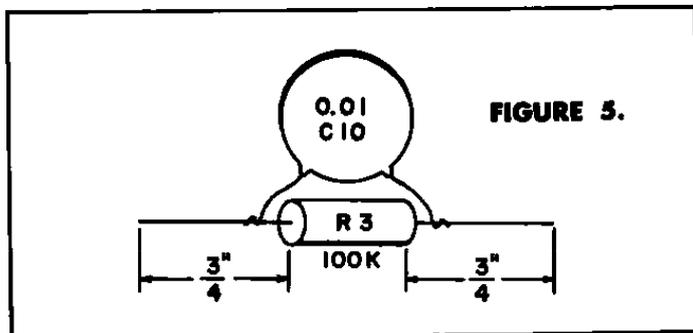
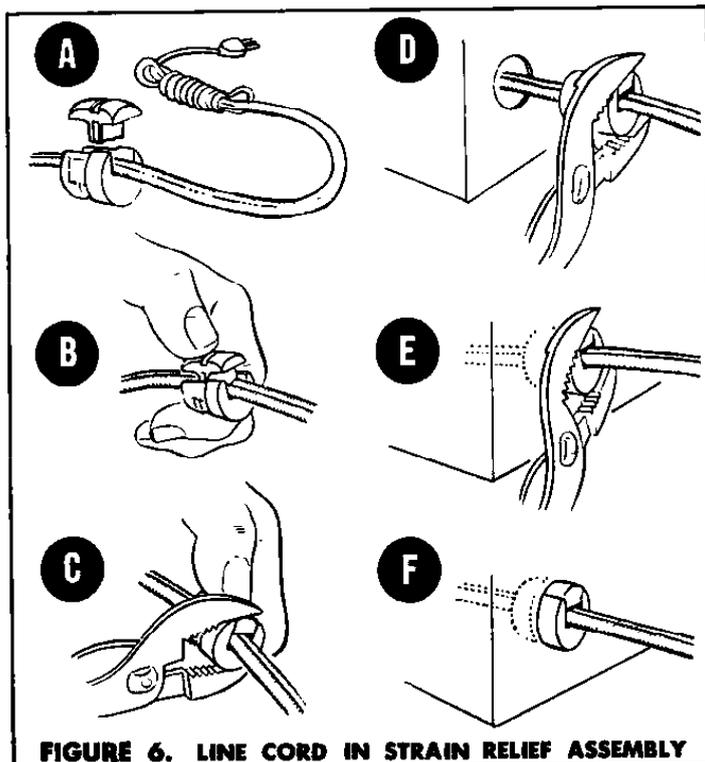

FIGURE 5.
FIGURE 6. LINE CORD IN STRAIN RELIEF ASSEMBLY
73. () Connect a 1" length of blue wire from lug 12 on switch K (S) to lug 2 on the "Band A" coil (S).
74. () Connect a 1 1/2" length of blue wire from lug 3 on the "Band D" coil (S) to lug 9 on switch K (S).
75. () Cut each lead of a 0.01 μ f ceramic disc capacitor C7 (part # 12-8) to 1/2" length, and connect from pin 7 of socket A (S) to lug 2 on terminal post CC (NS).
76. () Connect a 2" length of blue wire from lug 3 on the "Band C" coil (S) to lug 10 on switch K (S).
77. () Cut each lead of the 390 μ f ceramic disc capacitor C8 (part # 12-60) to 1/2" length, and connect from lug 1 on terminal post CC (S) to lug 2 on terminal post CC (NS).
78. () Cut each lead of the R-F choke L-1 (part # 23-9) to 3/4" length, and connect from lug 2 on terminal post CC (S) to lug 3 on terminal post CC (S).
79. () Cut each lead of the 270 μ f ceramic disc capacitor C9 (part # 12-31) to 1" length, and connect from lug 1 on the antenna post E (S) to lug 1 on terminal post FF2 (S).
80. () Cut each lead of a 0.01 μ f ceramic disc capacitor C10 (part # 12-8) to 1/2" length, and wrap around the leads of a 100K 1/2 w resistor, R3 (brown-black-yellow-silver) (part # 13-1), as shown in Figure 5. Solder these connections as shown.
81. () Connect a 3" length of blue wire from lug 11 on switch K (S) to lug 3 on the "Band B" coil (S).
82. () Cut the leads of the resistor-capacitor combination soldered together in step 80 to the lengths shown in Figure 5, and connect from lug 1 on the "Band B" coil (S) to the ground lug FF3 (S).
83. () Cut each lead of the 200 ohm 10 w resistor R4 (part # 13-83) to 1" length, and connect from pin 3 of socket C (S) to pin 3 of socket B (S).
84. () Cut each lead of the 10 μ f 25-Volt electrolytic capacitor C11 (part # 12-41) to 3/4" length, and connect the negative end to lug 2 on terminal post BB (NS). Connect the + or positive end to pin 1 of socket C (NS).
85. () Cut each lead of the 180 ohm 1/2 w resistor R5 (brown-grey-brown-silver) (part # 13-34) to 3/4" length, and connect from lug 2 on terminal post BB (S) to pin 1 of socket C (S).
86. () Cut each lead of the 270 ohm 1 w resistor R6 (red-violet-brown-silver) (part # 13-82) to 1/2" length, and connect from pin 7 of socket B (NS) to lug 1 on terminal post AA (NS).
87. () Cut each lead of the 4700 ohm 1/2 w resistor R7 (yellow-violet-red-silver) (part # 13-18) to 3/8" length, and connect from lug 1 on terminal post AA (S) to lug 2 on terminal post AA (NS).
88. () Cut each lead of the 47,000 ohm 1/2 w resistor R8 (yellow-violet-orange-silver) (part # 13-4) to 1" length, and connect from lug 2 on control J (NS) to lug 2 on terminal post AA (NS).
89. () Cut each lead of the 100 K 1/2 w resistor R9 (brown-black-yellow-silver) (part # 13-1) to 3/8" length, and connect from lug 2 on terminal post AA (S) to lug 5 on terminal post AA (NS).
90. () Cut each lead of the 750 μ f ceramic disc capacitor C12 (part # 12-61) to 1" length, and connect from lug 2 on control J (S) to lug 3 on terminal post AA (NS).
91. () Cut each lead of the 27,000 ohm 1/2 w resistor R10 (red-violet-orange-silver) (part # 13-33) to 1" length, and connect from lug 3 on control H (S) to lug 4 on terminal post AA (NS).
92. () Cut each lead of a 0.01 μ f ceramic disc capacitor C13 (part # 12-8) to 3/4" length, and connect from lug 4 on terminal post AA (S) to lug 5 on terminal post AA (S).
93. () Cut each lead of a 0.01 μ f ceramic disc capacitor C14 (part # 12-8) to 3/4" length, and connect from lug 3 on terminal post AA (S) to lug 6 on terminal post AA (S).
94. () Cut each lead of the 0.005 μ f ceramic disc capacitor C15 (part # 12-36) to 1/2" length, and connect from pin 6 of socket C (S) to pin 7 of socket C (S).
95. () Insert the line cord into the two-piece strain relief (part # 20-3) as shown in Figure 6, a,b,c. Allow the stripped end to project 3" beyond the strain relief. Feed the stripped end through the chassis hole R, and insert the strain relief as shown in Figure 6, d,e,f. Connect one stripped end to lug 1 on the terminal post BB (S); run the other stripped end through pin 4 on socket B and connect to pin 5 of socket B (NS). Solder pin 4 (S).
96. () Cut the leads of the 0.01 μ f ceramic disc capacitor C16 (part # 12-8) to 1/2" length, and connect from pin 5 of socket B (S) to pin 7 of socket B (S).